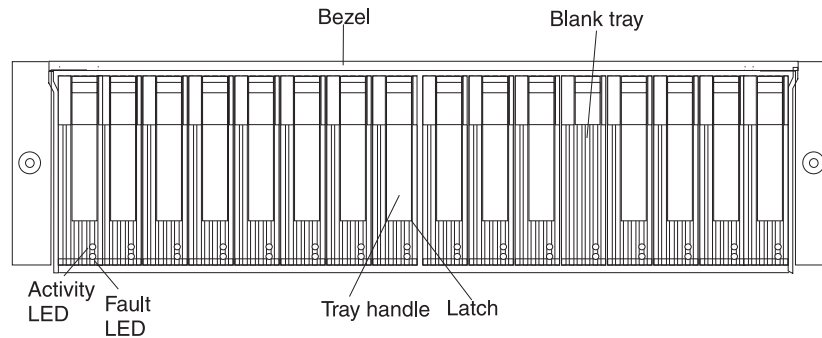

Figure 77. Hot-swap E-DDM LEDs
2. Check for Fault LEDs shown in Figure 77 on page 125. If any amber LEDs are lit, see "Solving problems" on page 149.